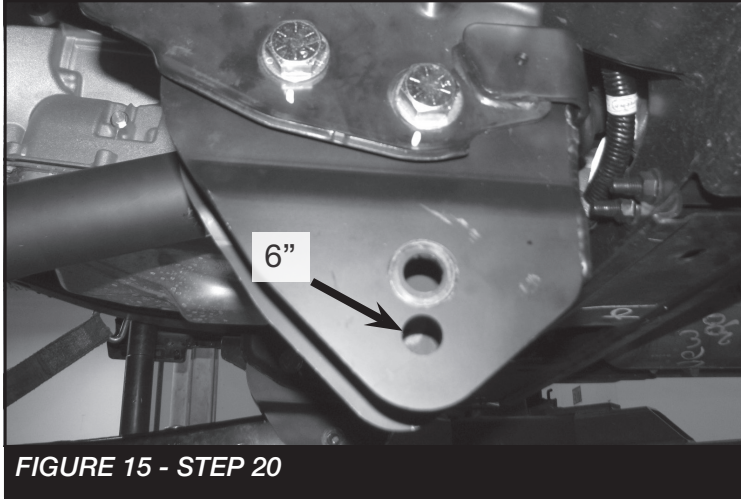

FIGURE 15 - STEP 20
20. Reinstall the radius arm into the new drop down bracket using the factory hardware. Attach to the axle first then to the new drop bracket using the lower hole. Torque to 200 ft-lbs. **SEE FIGURE 15**